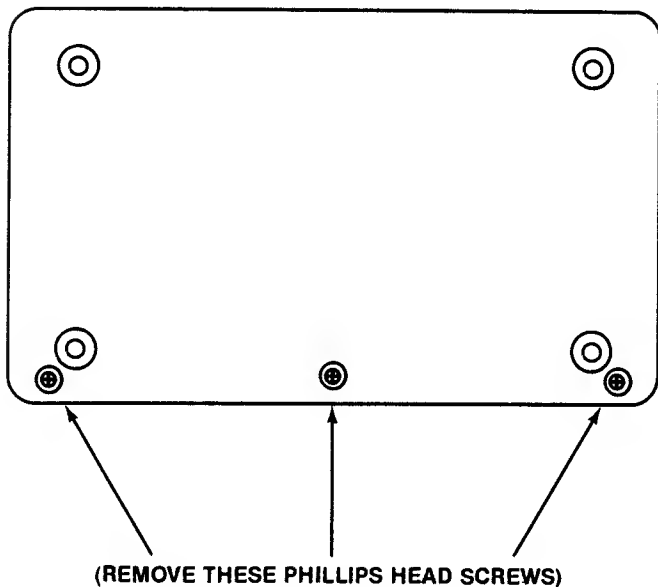

Fig. A-2. Remove these screws to disassemble your Commodore 64 computer.
5. Refer to Fig. A-2. Remove the three Phillips-head screws from the keyboard-end of the baseplate.